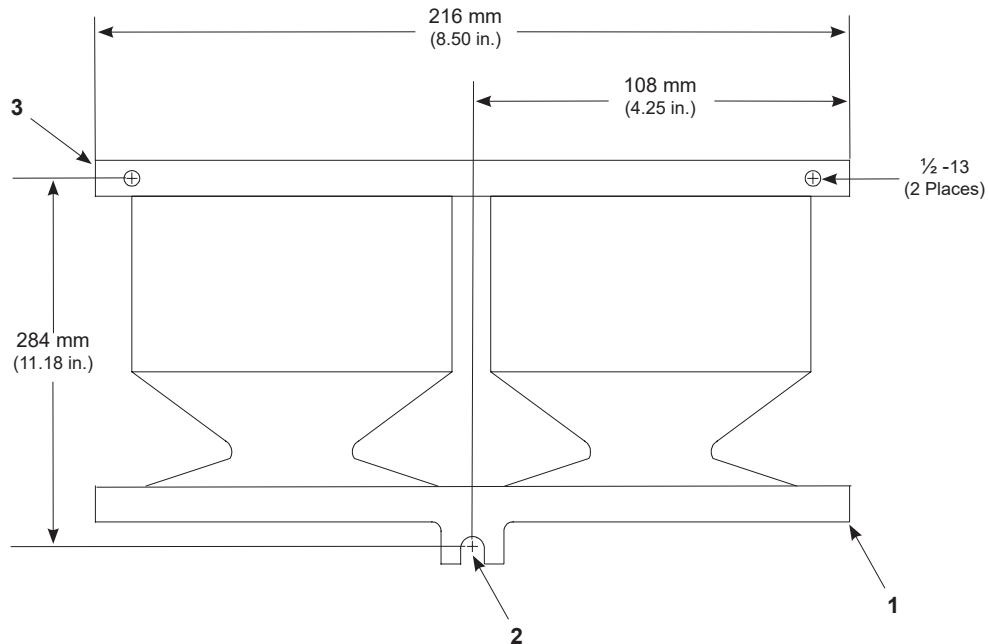

Figure 3-2 Mounting Dimensions
See Figure 3-2. Install the pump on a horizontal surface and in an area accessible for operation and maintenance. Use three hex head 1/2- 13 bolts to mount the pump, one bolt for the mounting slot (2) located on the solvent chamber (1), and two bolts into the threaded mounting holes located on the bottom surface of the upper head (3).